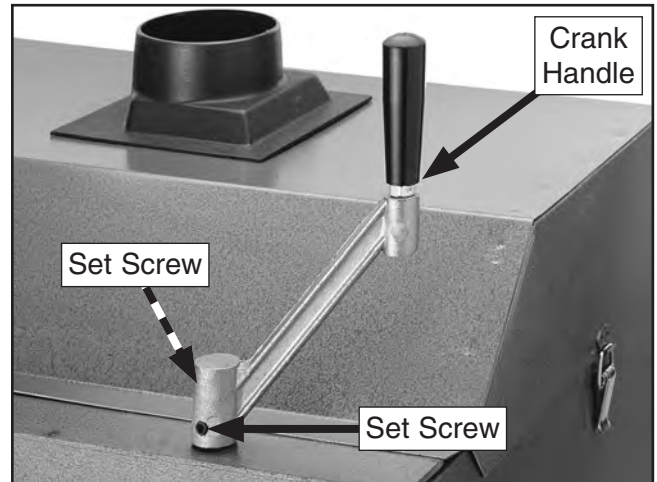

Figure 14. Crank handle attached to right front leadscrew shaft (G1066R shown).
3. Attach crank handle (see **Figure 14**) to leadscrew shaft and secure with (2) pre-installed set screws. Crank handle may be attached to leadscrew on left, right, front or rear of machine, depending on operator preference.